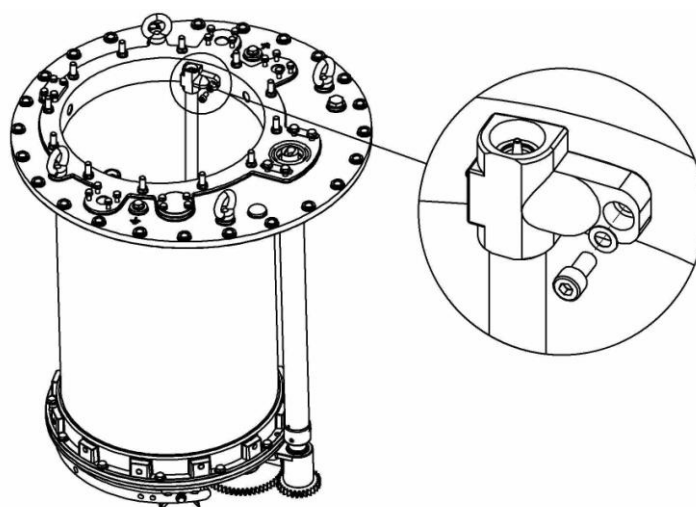

Fig.22 – Uninstalling the siphon of the oil compartment
6.17. Install the siphon pipe. See Fig. 22.